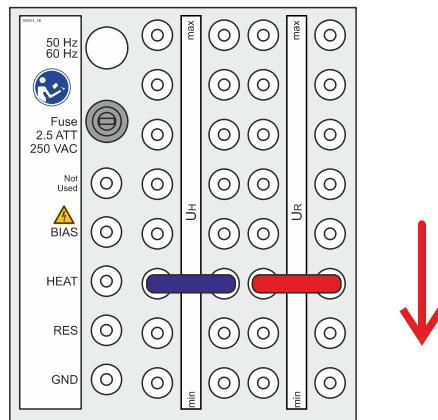

Figure 130: Thyratron supply voltage decrease
15. Remove the U_R jumper and insert at the next lowest setting (see Figure 130).